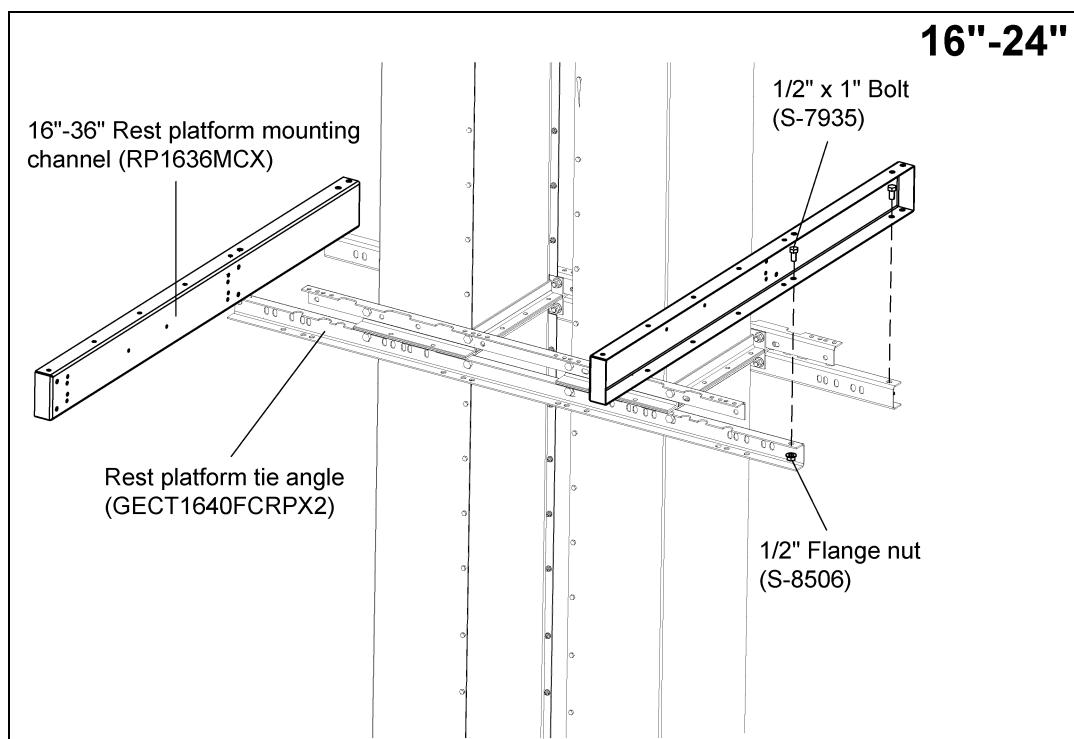
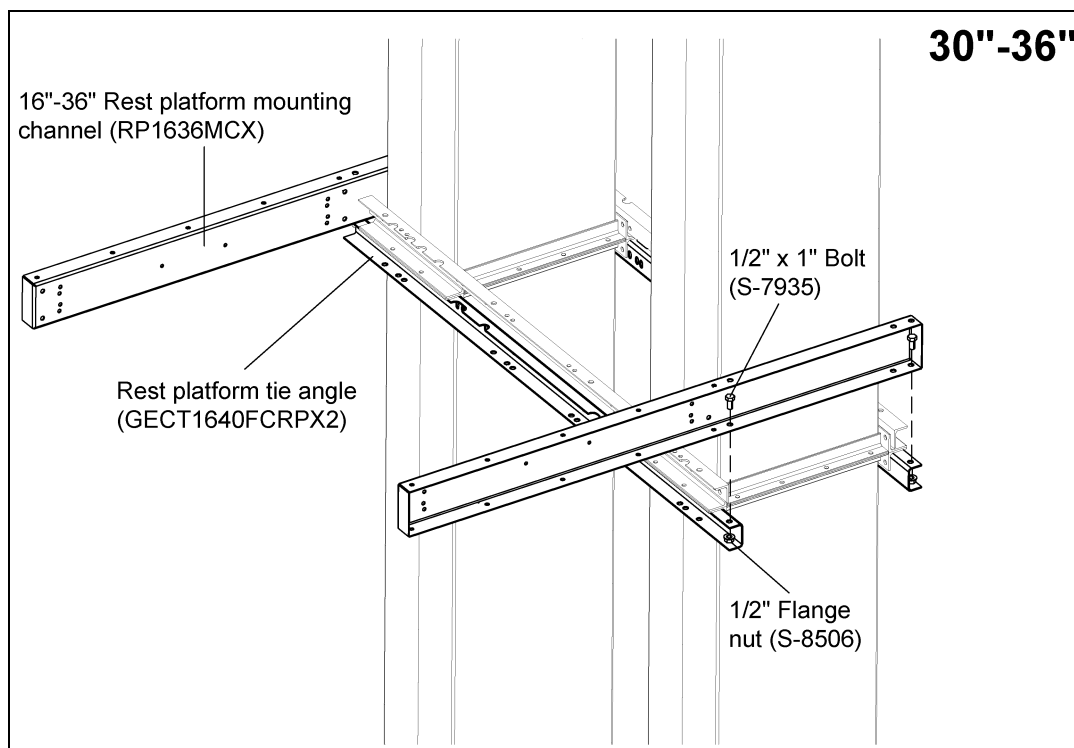

Figure 6I Bolt hole locations for 16"-24" rest platform mounting channels to tie angles.
Figure 6J Bolt hole locations for 30"-36" rest platform mounting channels to tie angles.
1. Connect rest platform mounting channels to the rest platform tie angles using 1/2" x 1" bolts. Bolt hole locations for 16"-24" bucket elevator will be the same. (See Figure 6I.) Bolt hole locations for 30"-36" bucket elevator will be the same. (See Figure 6J.)